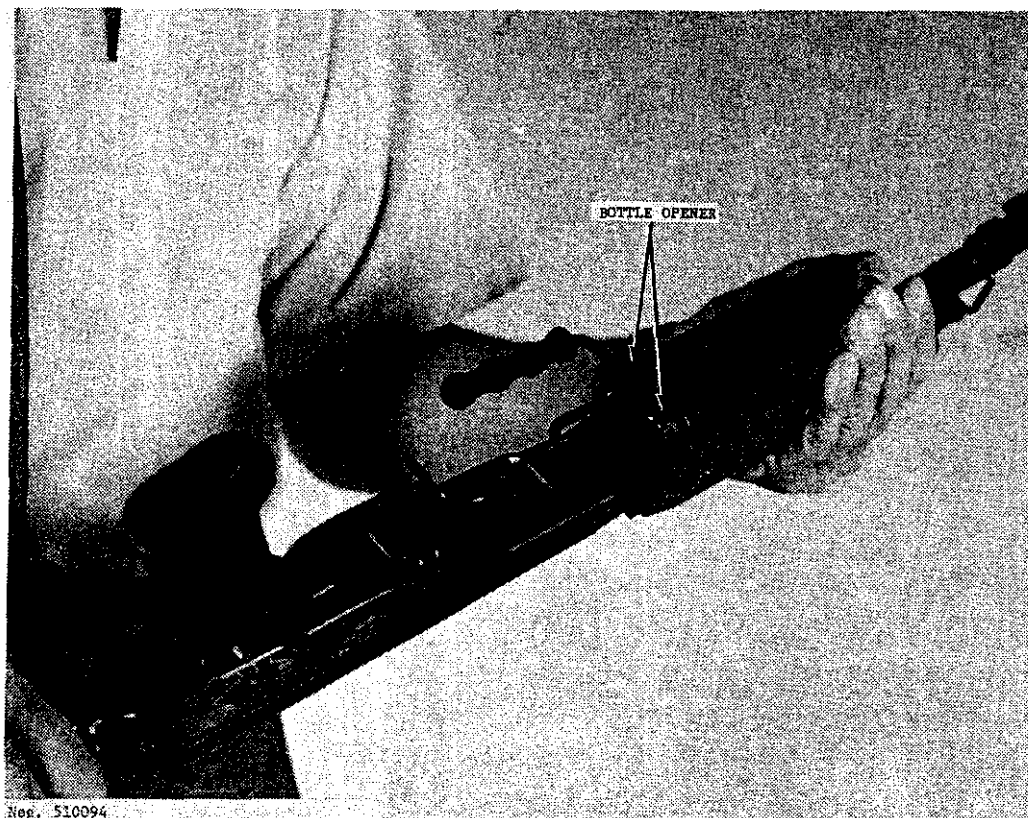

Figure 95. Galil bottle opener.
d. To use the bottle opener (fig 95), disengage the bipod legs from it and place one edge of the bottle cap under one side of the opener. Lever the bottle against the other side, and the cap will pop off.